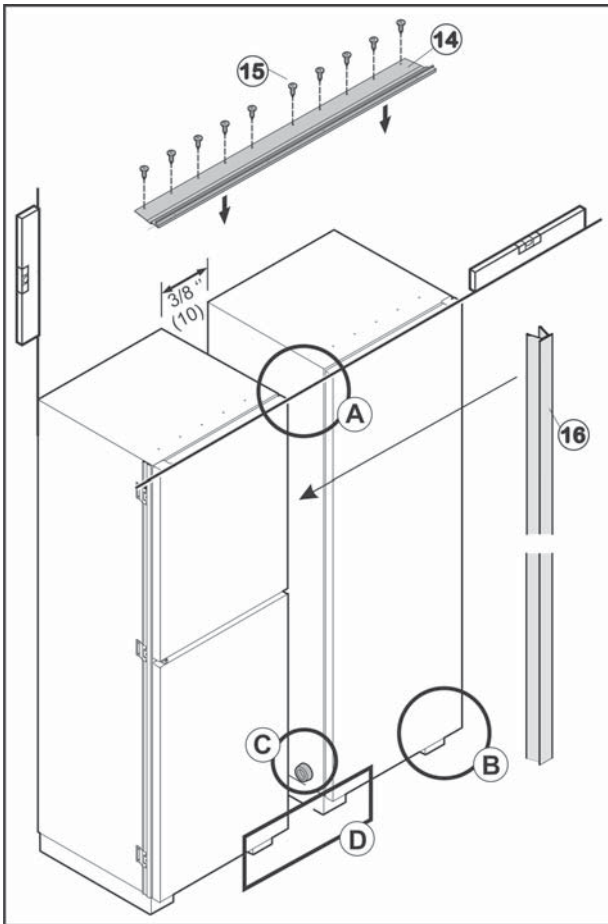
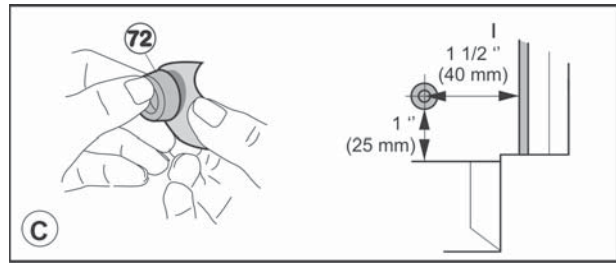
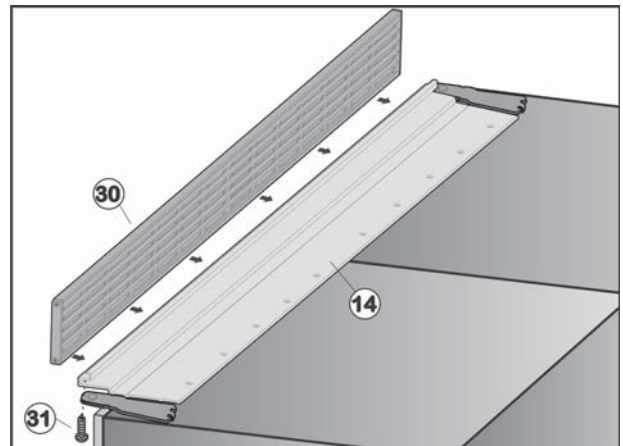
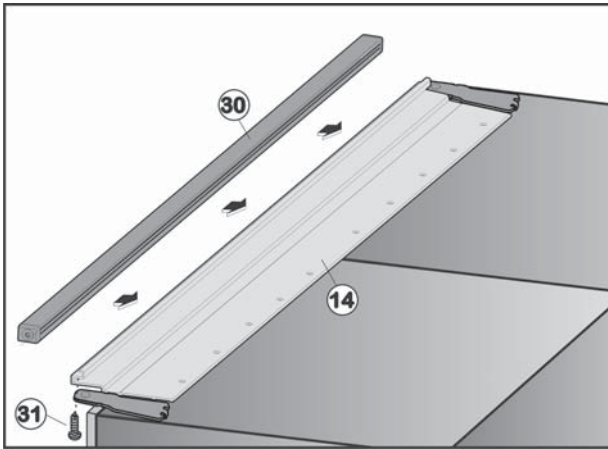

Fig. 42
Fig. 44
Fig. 49
Fig. 50
- ▶ Glue spacer Fig. 44 (72) onto the lower part of the side wall on the handle side, approximately 1.5 in. (40 mm) as measured inwards from the front edge of the appliance.
- ▶ Position end strip Fig. 42 (14) over the installation contour and align it such that the holes in ventilation grille and installation contour are above each other.
- ▶ Screw on upper installation contour Fig. 42 (14) through the pre-cut holes using screws Fig. 44 (15).
- ▶ Position ventilation grille Fig. 49 (30) over the installation contour Fig. 42 (14) and align it such that the holes in ventilation grille and installation contour are above each other.
- ▶ Screw ventilation grille Fig. 49 (30) to installation contour from below using four screws Fig. 49 (31).
- ▶ Position end strip Fig. 50 (30) over the installation contour Fig. 42 (14) and align it such that the holes in ventilation grille and installation contour are above each other.
- ▶ Screw end strip Fig. 50 (30) to installation contour from below using four screws Fig. 50 (31).